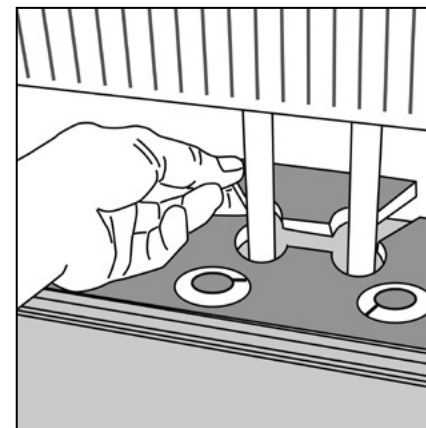

Figure 31 Radiator pipes
- > Install the floor plank. If necessary, put a bead of contact adhesive on the cut piece and replace. Insert a spacer directly behind the inserted piece to wedge it in place ensuring that the correct sized expansion gap has been left. Leave this in place until the adhesive has hardened. (fig. 31 adjacent)